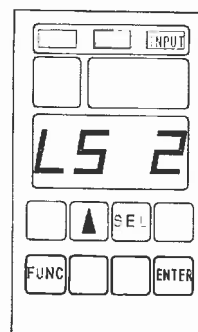

Fig. 4.1 (2)
- (4) Press [▲] several times "2" the display panel. (Fig. 4.1 (2))
- (5) Numeric display will blink, [ENTER] key press and light the key once. (Fig. 4.1 (2))